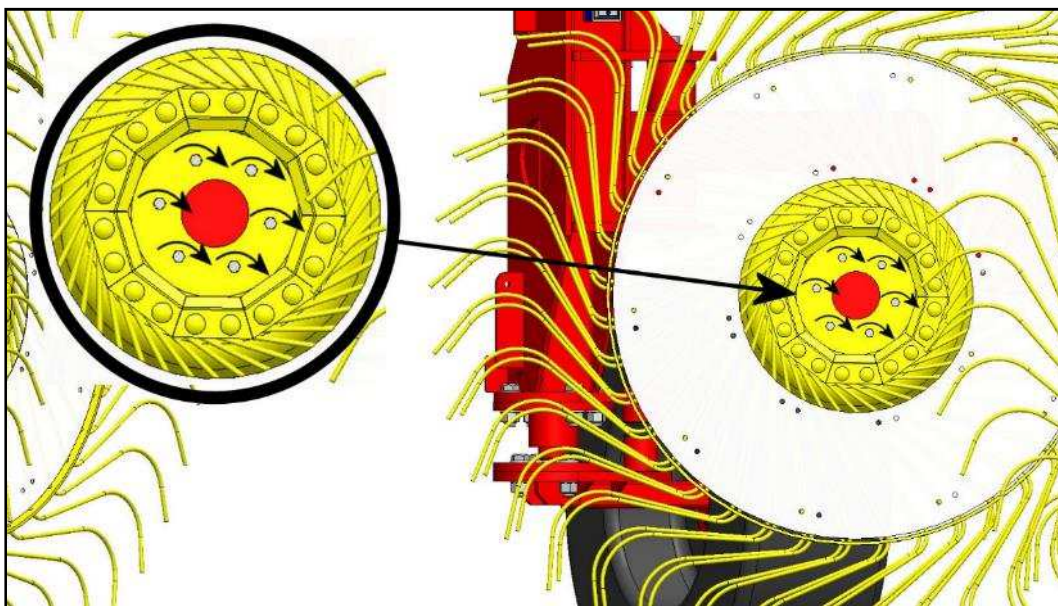

Figure 29
If the front star wheels have already been removed and there is not much forage to collect (in this case, the windrow looks like the right side one depicted in figure 29-b – flat windrow), they must be reconnected to the rake as follows:
- With the help of a colleague, place the front star wheel on the connection bracket and tighten the screws (see Figure 29).